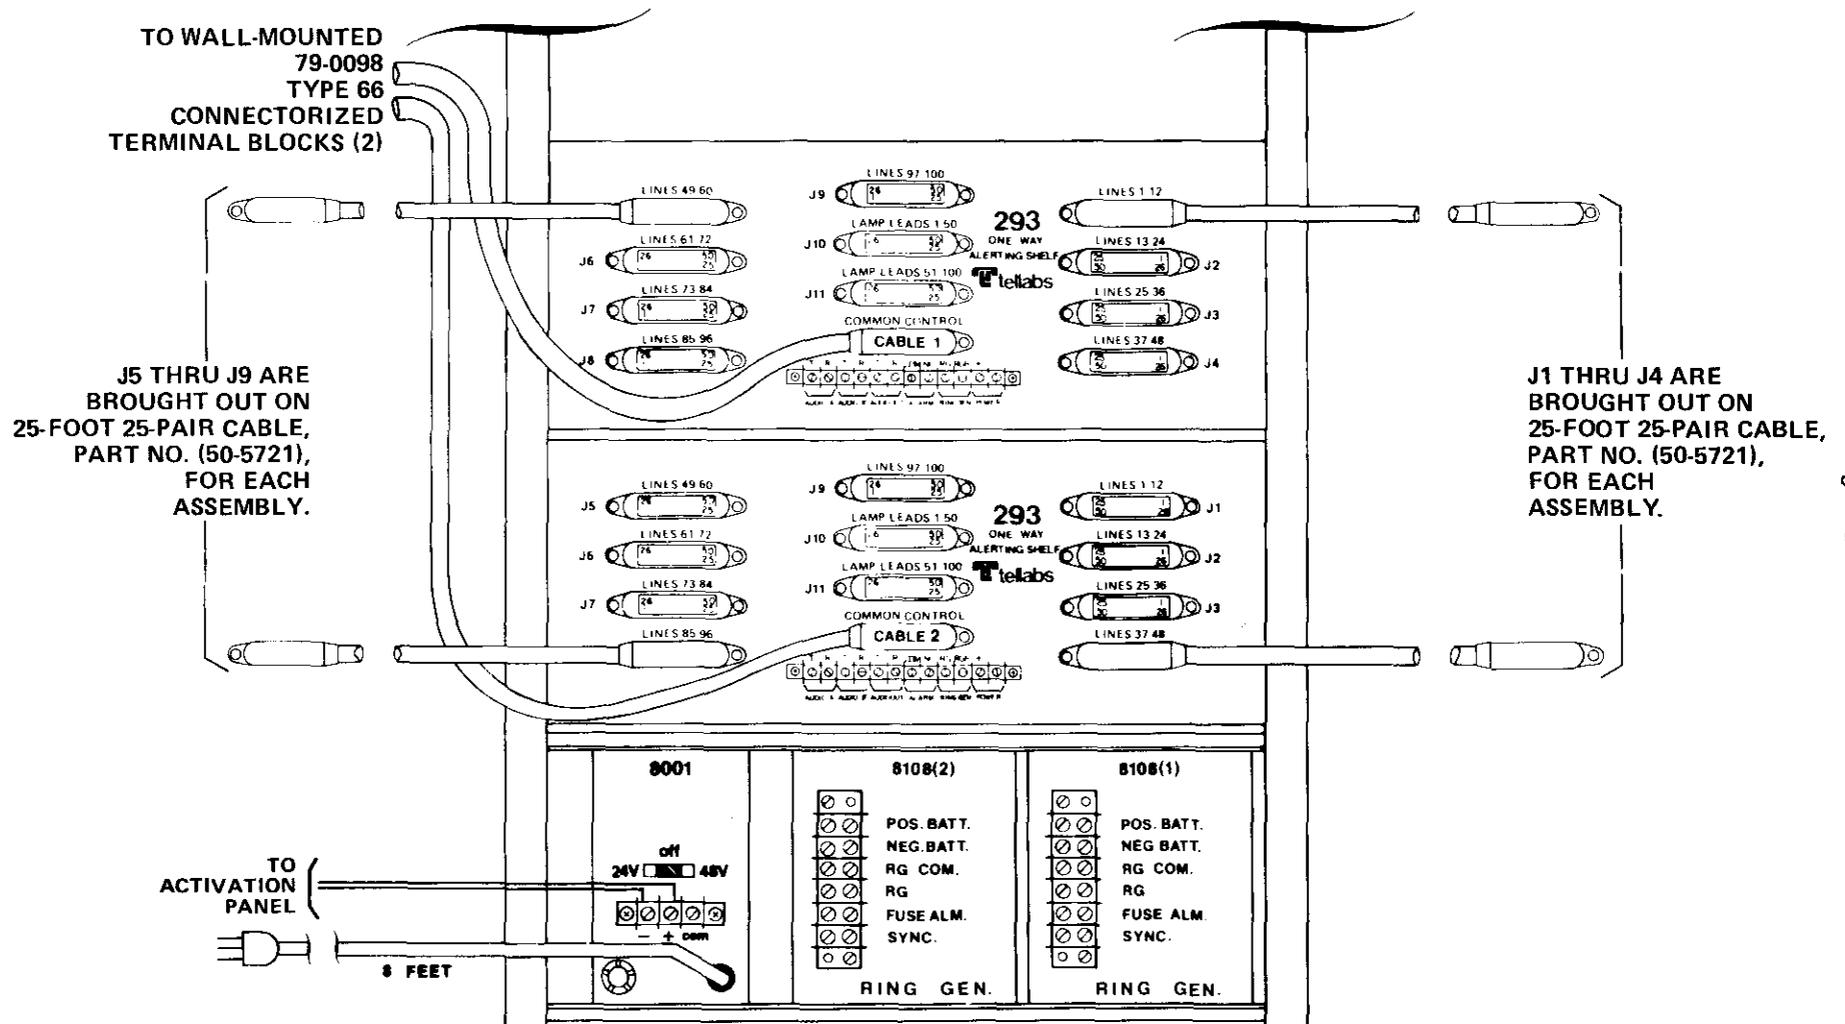

figure 4. Cabling connections
2.11 Make the following connections via male connectorized cables to the corresponding female connectors (reference to figure 4 will aid in completing this procedure):
- Use two-conductor 18AWG cable to wire power cable from the 8001 24Vdc Power Supply to the activation panel (see figure 4).